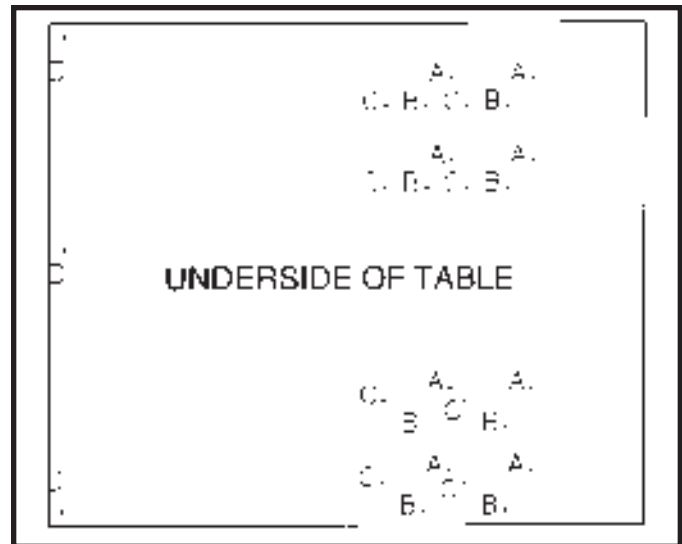

Fig. 4
- A. Eight holes indicated as (A) Fig. 4, beginning 6 inward from the end of the table, are used to mount the legs when assembling the table to a Delta 10 Contractor's Saw.
- B. Eight holes indicated as (B) Fig. 4, beginning 7-3/8 inward from the end of the table, are used to mount the legs when assembling the table to a Delta Unisaw.
- C. Eight holes indicated as (C) Fig. 4, beginning 9-5/8 inward from the end of the table, are used to mount the legs when assembling the table to a Delta 10 Tilting Arbor Saw.